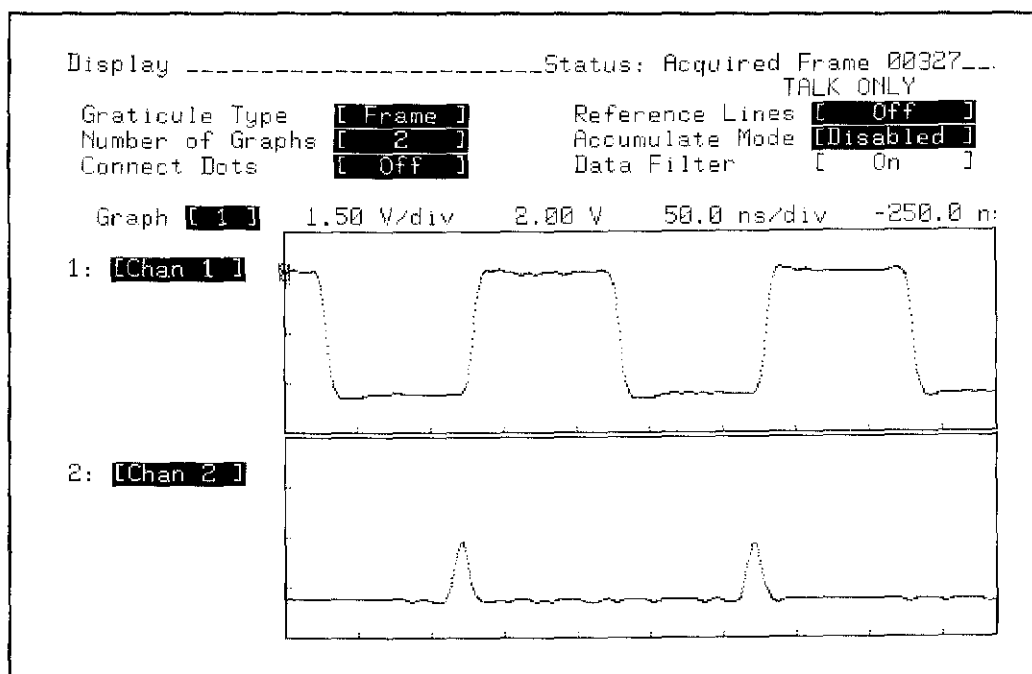

Figure 3-28. Minimum Hold Time Test Waveform
13. Exchange the BNC cables connected to Channel 2 and External Trigger inputs. The display should appear similar to figure 3-28.